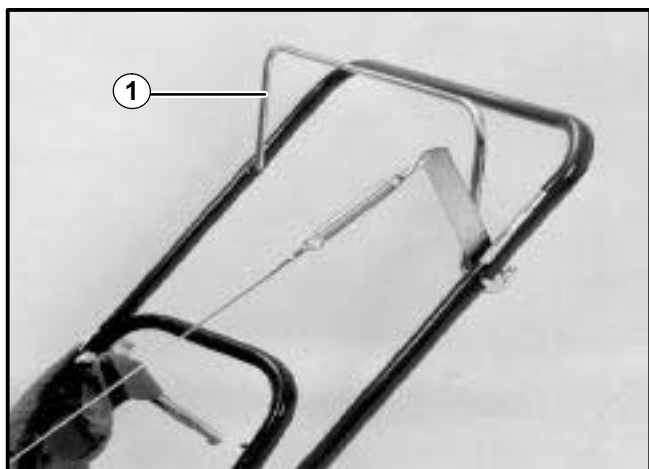

**FIGURE 4**
2. Start the two (2) set screws into the reel pulley.
6. Place the new belts between the idler pulley and the snubber on the idler arm, then over the engine and reel pulleys. See Figure 4.